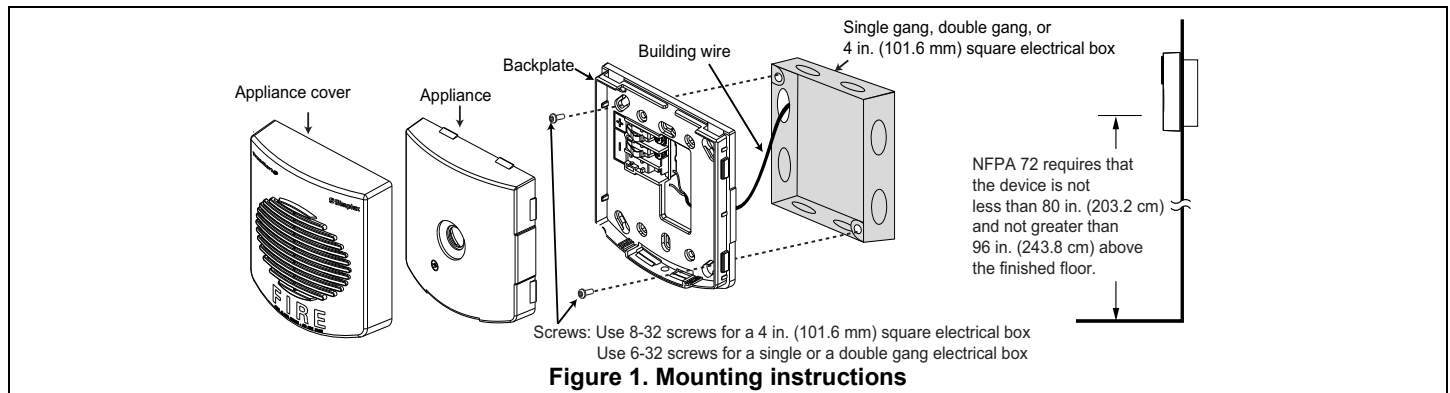

Figure 1. Mounting instructions
1. Select the mounting location and install the electrical box using screws suitable for the mounting surface. See *Figure 1* for mounting and location information.